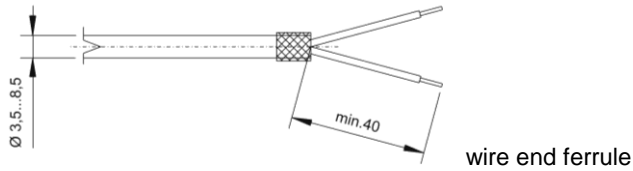

Fig. 12
- Strip both wires as in the figure 12.